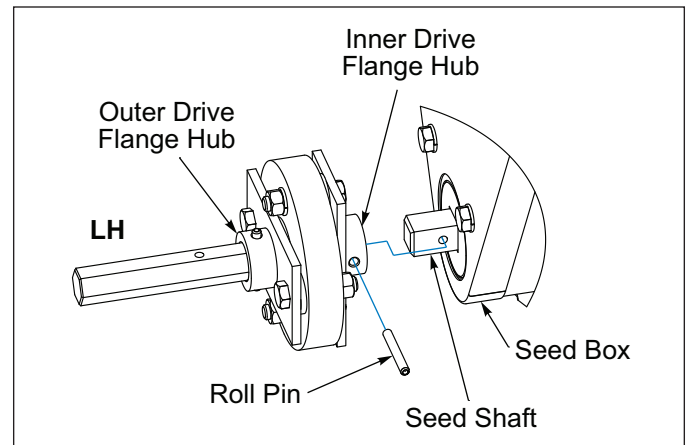

Figure 2-7: Agitator Installation - LH
1. On the left end of the Seed Box, remove the Roll Pin that connects the Seed Shaft and the Inner Drive Flange Hub. **See Figure 2-7.**